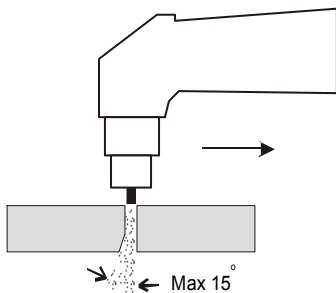

Fig. 5
- The cutting speed is too high. Make sure the slope of the cutting arc does not exceed about  $15^\circ$  (see Figure 5).